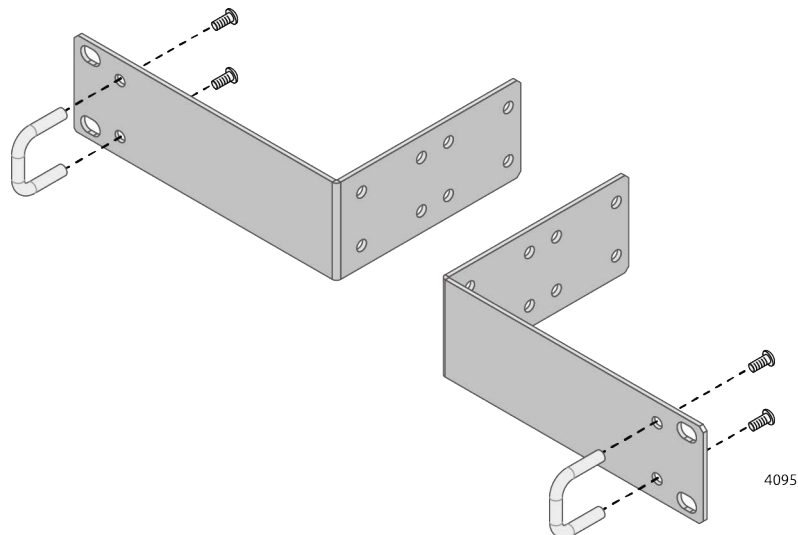

Figure 46. Attaching the Handles to the RKMT-J14 Brackets
3. Attach the two handles to the RKMT-J14 Brackets using the four M3x6mm screws included in the brackets kit. See Figure 46.